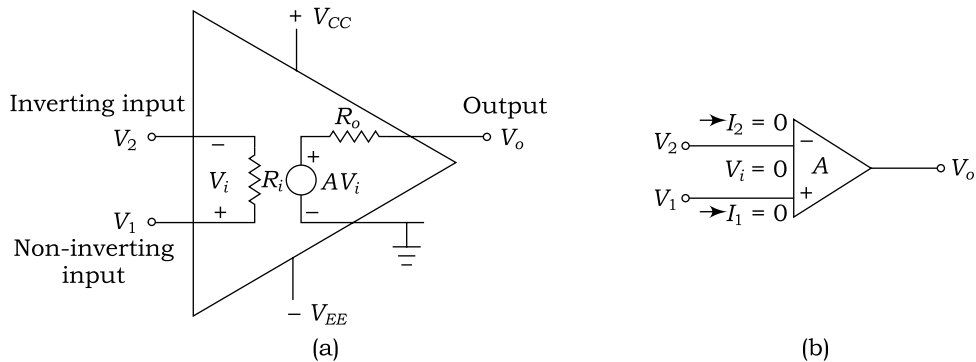

Fig. 6.2 Equivalent circuit of an OP-AMP
An equivalent circuit of an OP-AMP with finite input and out resistances is shown in Fig. 6.2. This circuit incorporates important values such as A , R_i , and R_o from manufacturer's data sheet.
- As $R_i = \infty$, current input into inverting and non-inverting terminals is approximately zero as shown in Fig. 6.2(a)